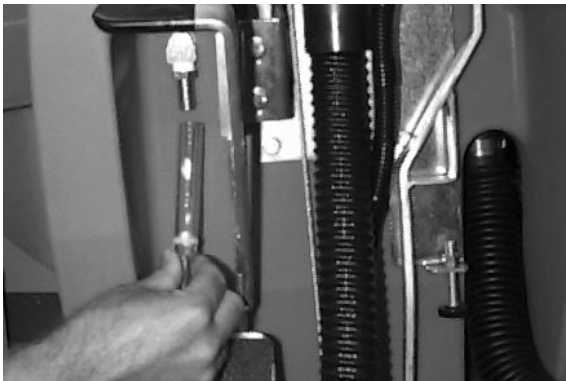

FIG. 18
1. Pull clear tube off hose barb at rear of machine and drain solution into floor drain or bucket (Figure 18).